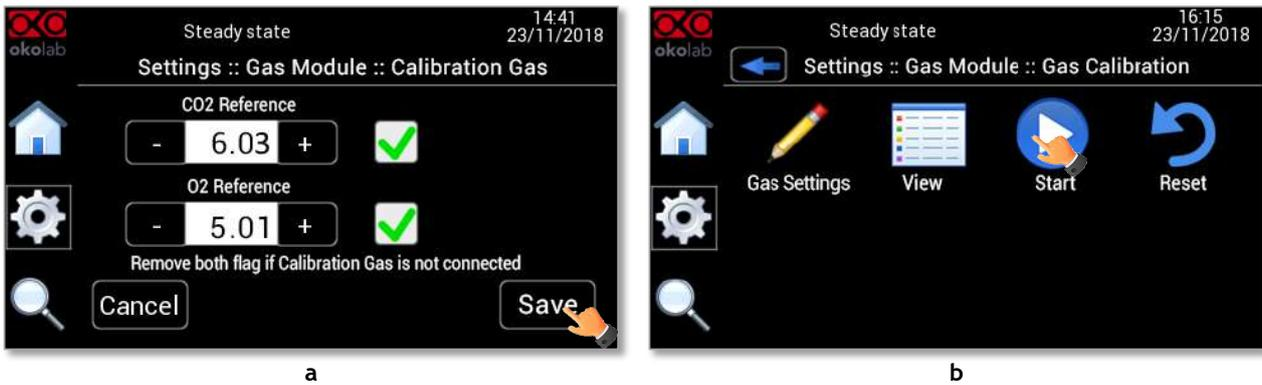
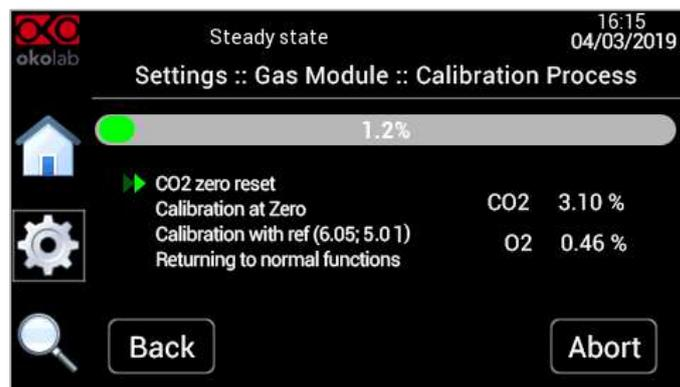

Figure 51 How to start the Gas Calibration procedure
Figure 52. Gas Calibration in progress
7. Once you have chosen the gas to calibrate and inserted the reference values, press on *Save* (see Figure 51 a) and then on *Start* icon (see Figure 51 b). The page with the calibration process in progress appears (see Figure 52)
press on *Progress* icon , the page shown in Figure 52 appears.